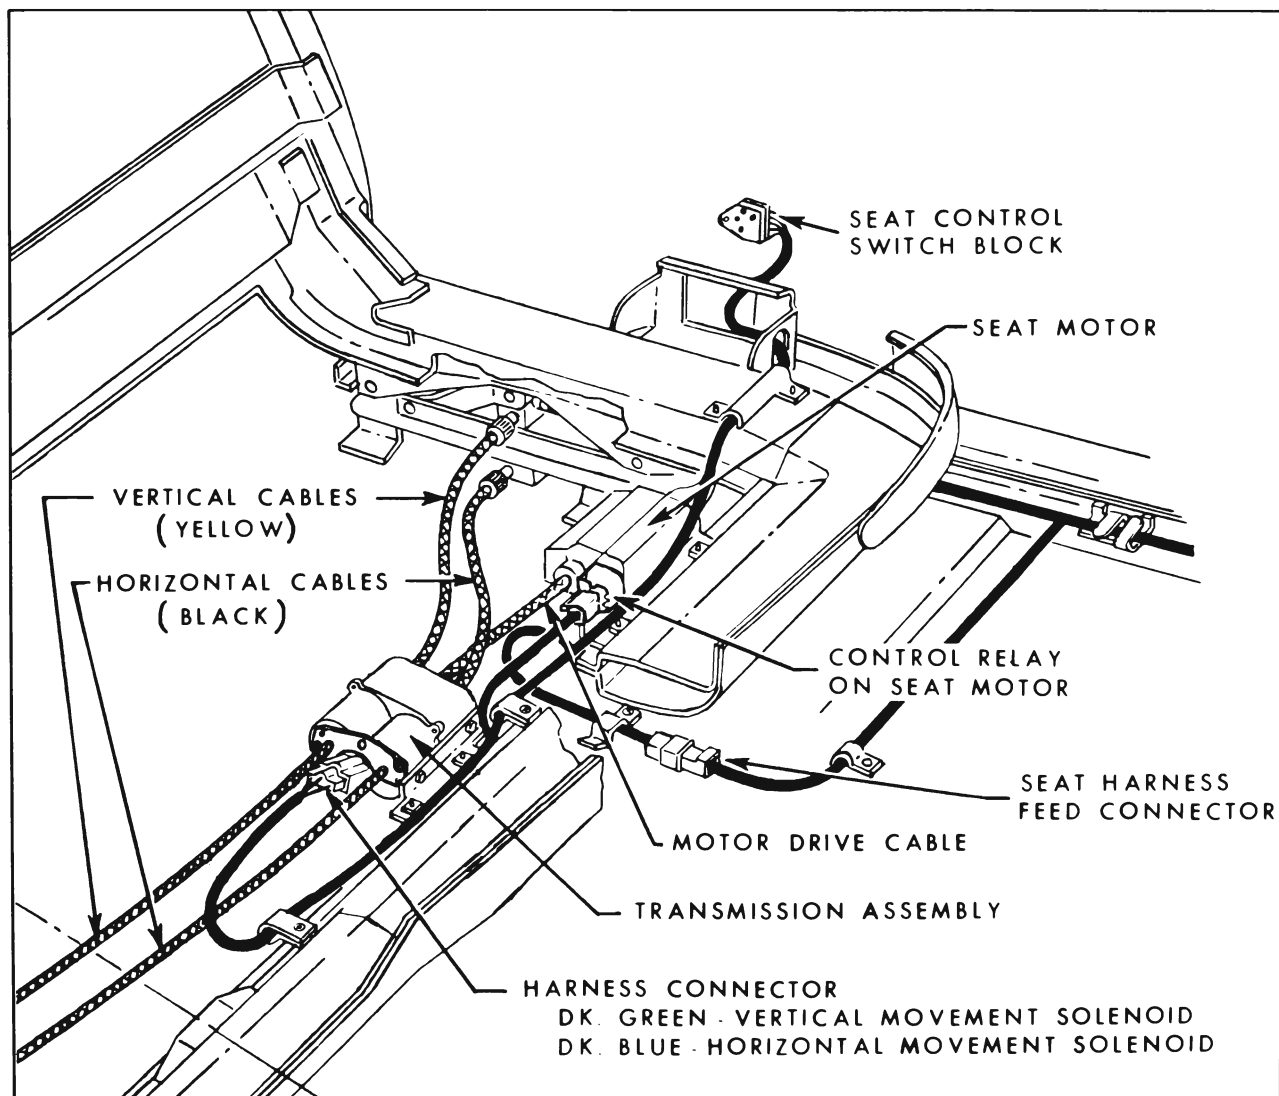

Figure 5-4—Four-Way Seat Assembly
3. Remove screws securing horizontal and vertical cable and plate on side of transmission from which cables are being removed and remove cables from seat assembly (Figure 5-4).
2. Disconnect wire harness connector from transmission (Figure 5-4).
4. Remove transmission to support attaching bolts; then, disengage transmission from motor drive cable and remove transmission from seat assembly (Figure 5-4).